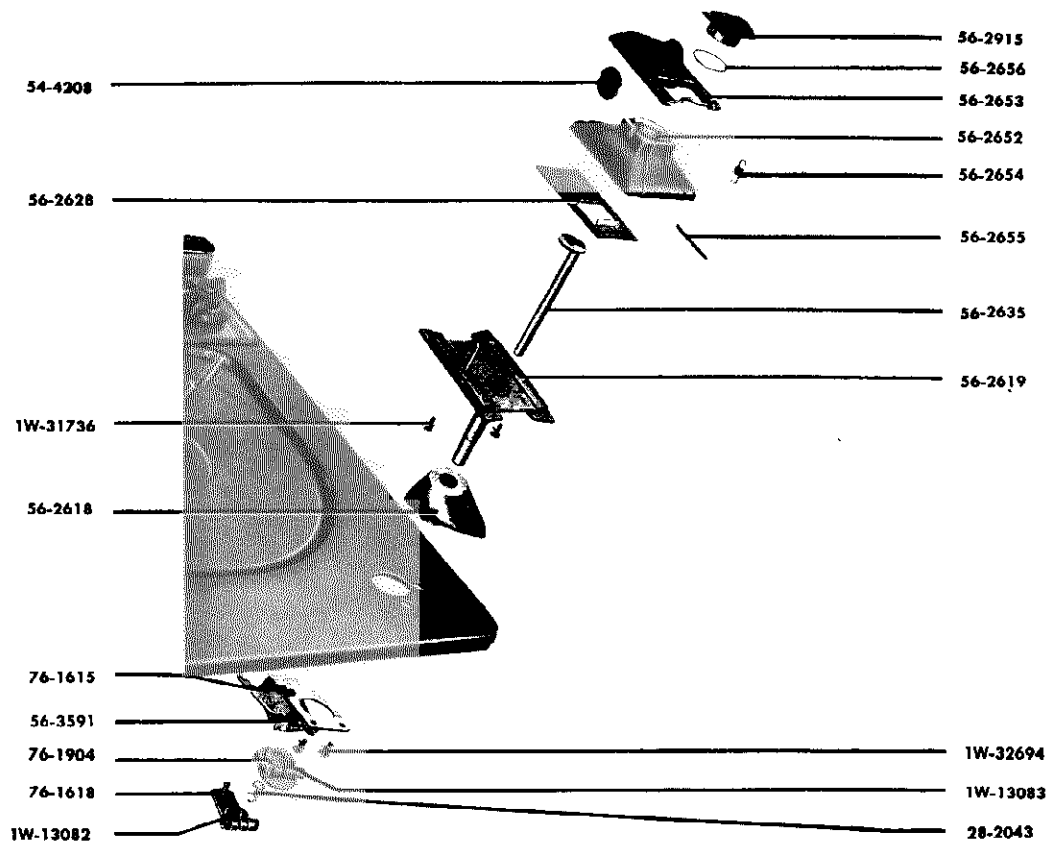

Figure 25—RECORD SHELF AND ASSOCIATED ASSEMBLIES, EXPLODED VIEW.
- a. Remove record-shelf cap cover 56-2915, by turning counterclockwise about $\frac{1}{8}$ turn and lifting out. See figure 25.
- b. Loosen screw 1W-13082 and remove assembly, figure 25.
- c. Remove two screws, 1W-31736, figure 25, from underside of record shelf and lift out record-shelf-cap assembly.
- b. Remove locking ring 28-2043, figure 25.